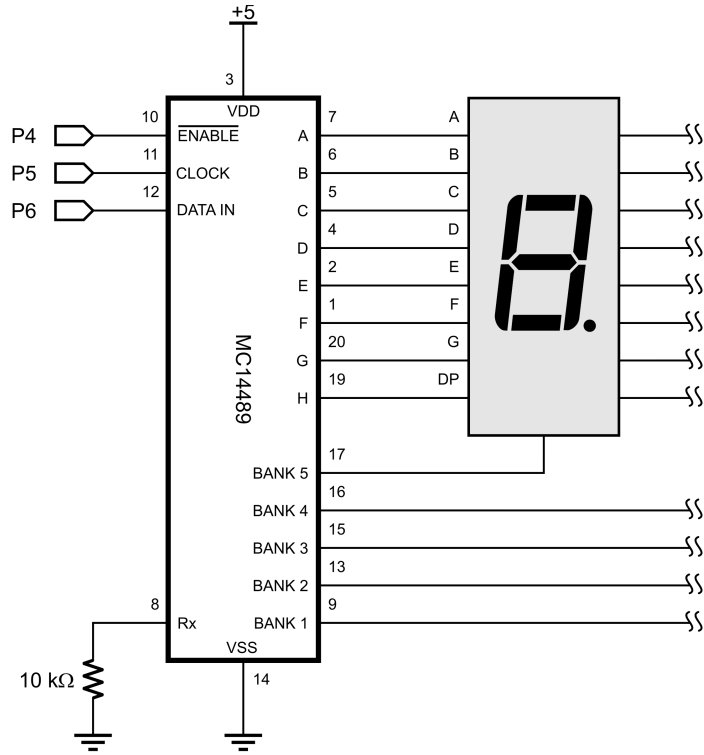

Figure 127.1: MC14489 Connections
The only other component required is a 10K resistor to control display brightness. You could actually drop a pot in place of the 10K if you want brightness control, and if you're really ambitious you could use a CdS photocell (not alone, though) to automatically adjust brightness for changes in ambient light. Let's keep things simple, shall we? A 10K resistor on the MC14489.Rx pin (8) works fine. Figure 127.1 shows the connections for using the MC14489 with up to five 7-segment, common-cathode displays. And if you want to try this circuit on the PDB, don't worry about the 470-ohm resistors that are inline with the 7-segment displays; the LEDs are very bright and work just fine with the circuit in Figure 127.1.